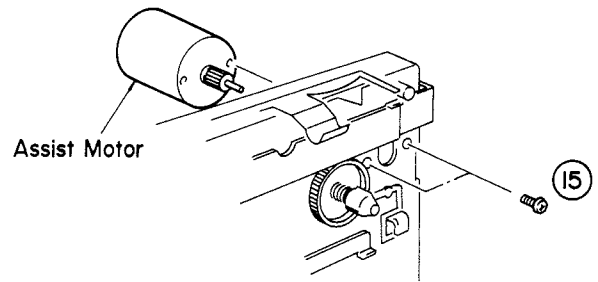

Fig. 11
- a. Remove 2 screws (15) in Fig. 11 and replace the assist motor.